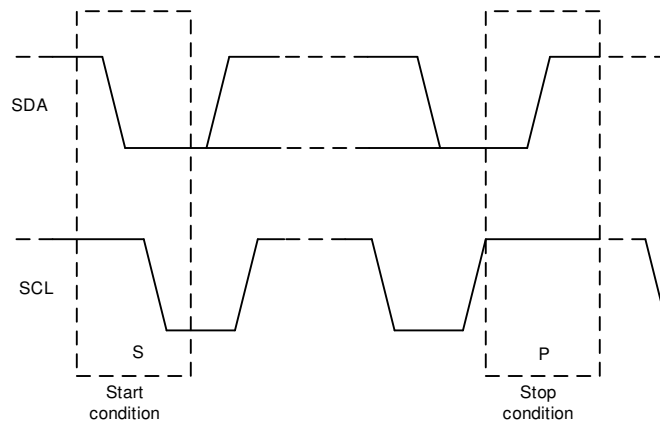

图 8-5. Start and Stop Conditions
1. The controller initiates data transfer by generating a start condition. The start condition is when a high to-low transition occurs on the SDA line while SCL is high, as shown in 图 8-5. All I²C-compatible devices recognize a start condition.
4. To signal the end of the data transfer, the controller generates a stop condition by pulling the SDA line from low to high while the SCL line is high (see 图 8-5). This action releases the bus and stops the communication link with the addressed target. All I²C-compatible devices recognize the stop condition. Upon receipt of a stop condition, the bus is released, and all target devices then wait for a start condition followed by a matching address.